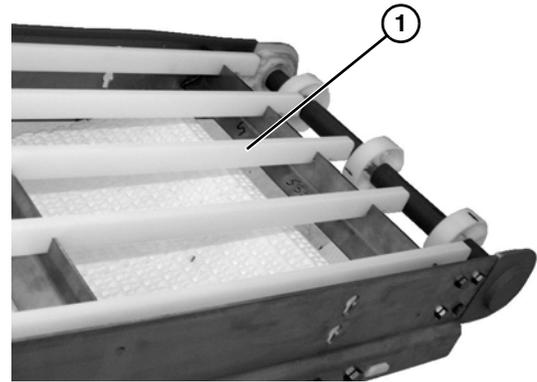

**Figure 35**
1. Remove worn bar cap (**Figure 35, item 1**) by lifting off of conveyor side rail.